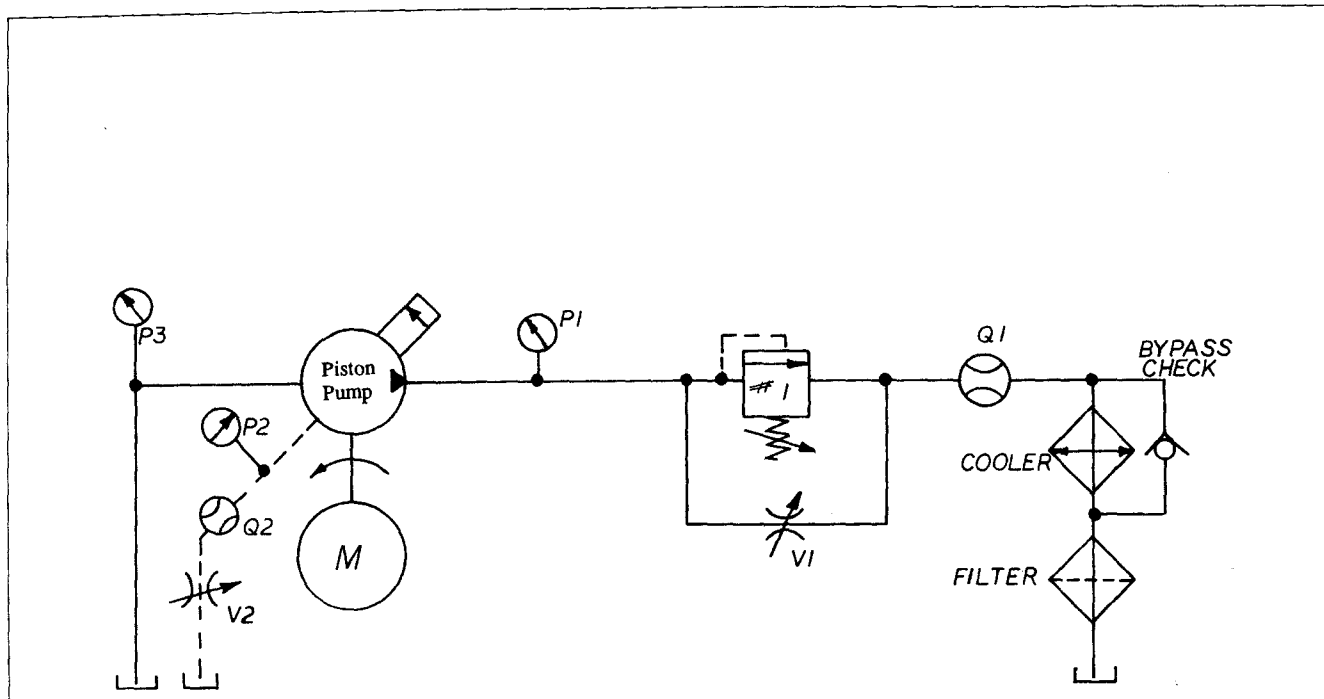
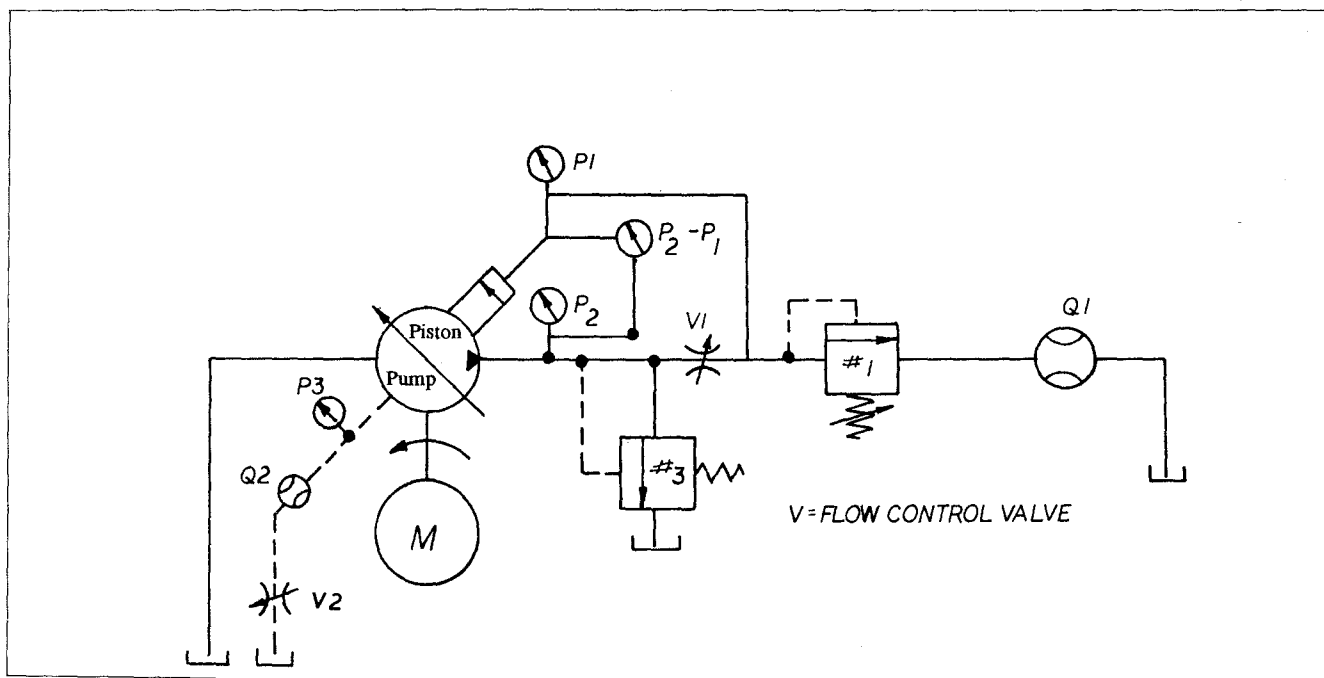

Figure 23. Circuit Diagram for "C" & "CG" Control
Figure 24. Circuit Diagram for "CV", "CVP", "CVPC" & "CVPD"
Install unit as shown in test circuit diagram with case drain up. Use the correct circuit diagram for the unit: Figure 23 - PVE19/21 (G)-***-C/CG-1*. Figure 24 - PVE19/21 (G)-***-CV/CVP/CVPC units.
1. Adjust load valve one (#1) and globe valve one (V1), Figure 23, to exactly 100 Psig as shown on gauge P1. The unit must meet the following requirements at full stroke, and 1200 rpm. See Table 4.
2. Refer to Figure 23 and adjust load valve (1) and globe valve (1) to 100 PSI system pressure at P1. Observe maximum pump flow and maximum case leakage requirements noted in Table 4.
3. Close load valve (1) and globe valve (1) to obtain minimum pump pressure setting. Minimum pump pressure should be approximately 250 PSI at P1.
Refer to Figure 24 for location of circuit components.